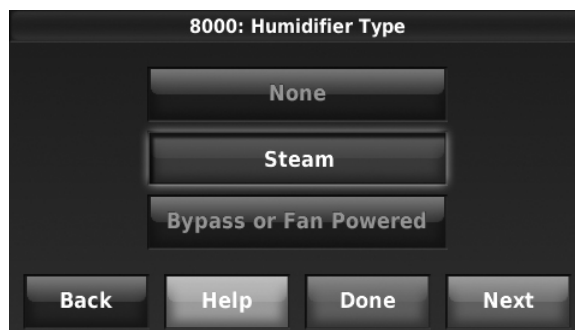

Fig. 105.
1. Select the Humidifier Type at ISU 8000. See Fig. 105.